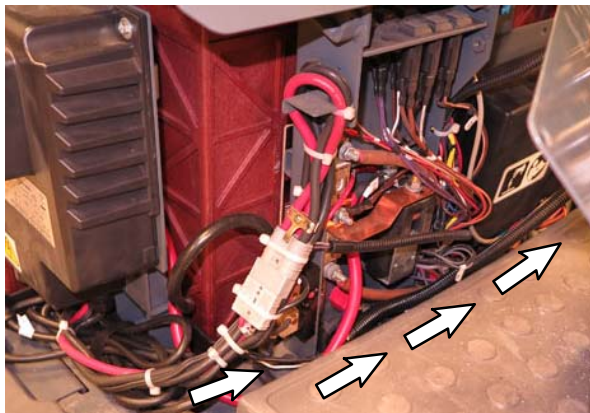

FIG. 6
10. Route the telemetry cable (3) along the front of the seat shroud. (Fig. 6)